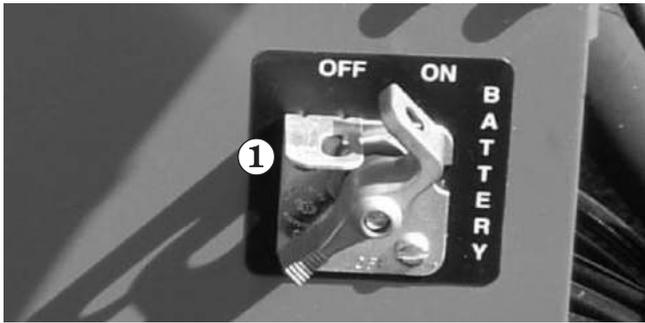

Figure 8.3
1. Set the **Battery** switch ① to on (see Figure 8.3).